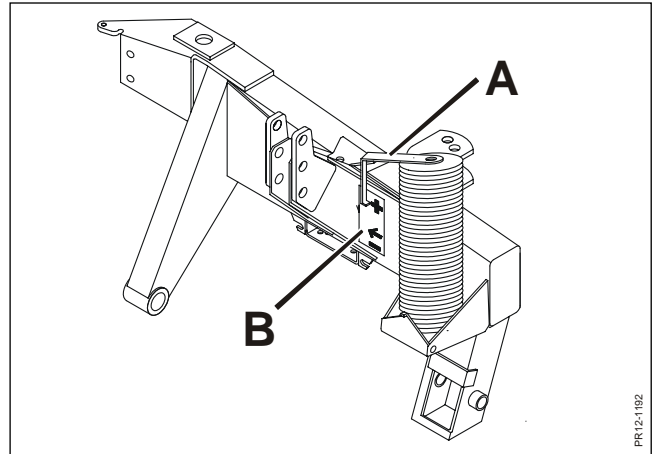

Fig. 3-7
- Fig. 3-7** Adjust the double-acting hydraulic outlet to floating position. Raise/ lower the link arms until the machine is at the correct working height. This is obtained when the indicator **A** is at level with the arrow on the transfer **B** as described in chapter 2.